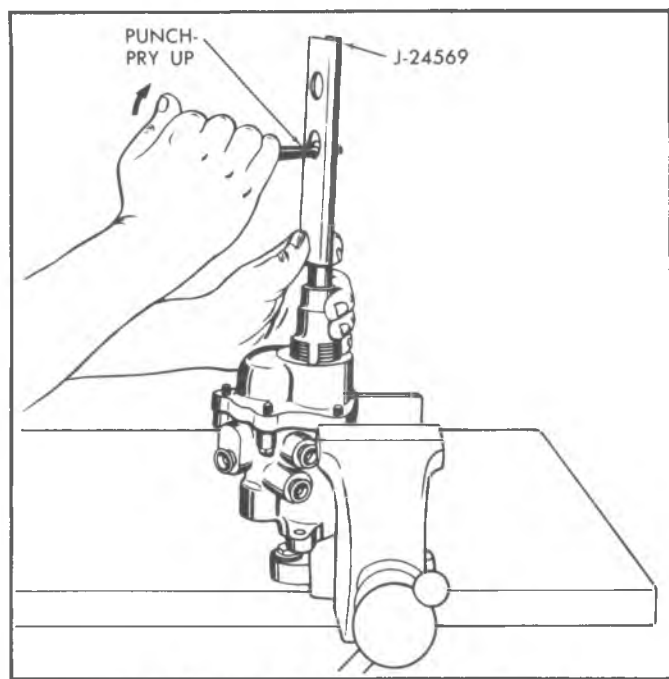

Fig. 6-Removing Booster Pedal Rod (Typical)
3. Place Tool J-24569 around the pedal rod and resting on the input rod end as shown in Figure 6.